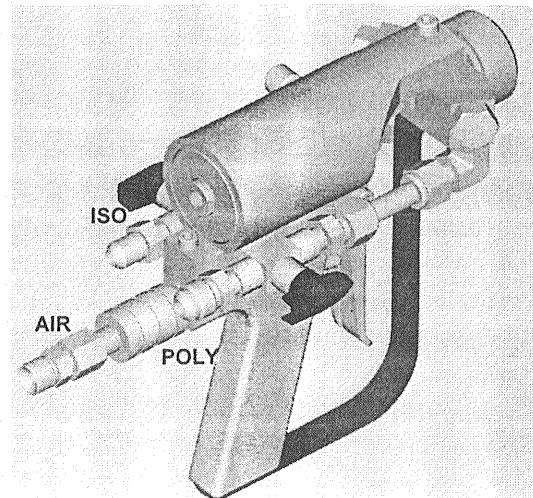

Fig. 2
2. The Whip Hose assembly should now be attached to the Gun. The swivel fittings on the Whip Hose assembly are sized differently and will attach only one way. (Match like sized fittings.) Also connect the Air Hose assembly to the Gun at this time. (see Fig. 2)
12. Place mixing module onto the end of the needle (23709-00) and pull main trigger back. Replace spray-tip (23726-00 Round 23727-00 Flat) and retaining nut (23728-00 and tighten to 100 in. lbs. Release main trigger. (see fig 2)